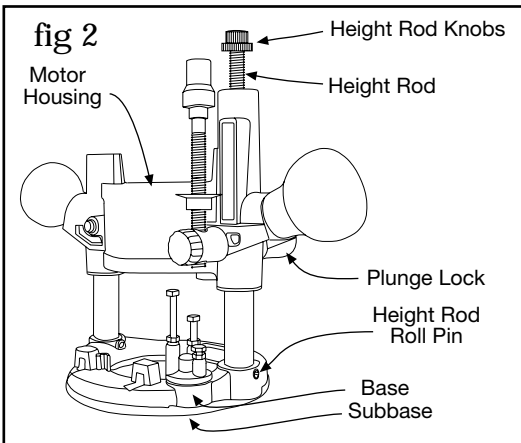

fig 2
- Using (fig 2) Remove and set aside subbase. Stand router upright secure plunge lock. Remove both height rod knobs. Release plunge lock and lift motor housing off of base. Remove both plunge springs, *set base and springs aside.*
1. **Drilling Original Subbase.** Using (fig 2) align template mounting holes with the subbase holes. Mark the Router Raizer access point onto the subbase. Before drilling, place subbase on router base, check the Raizer access point is over the mainshaft head. When marked properly drill a 3/4" access hole through the subbase and install onto router.